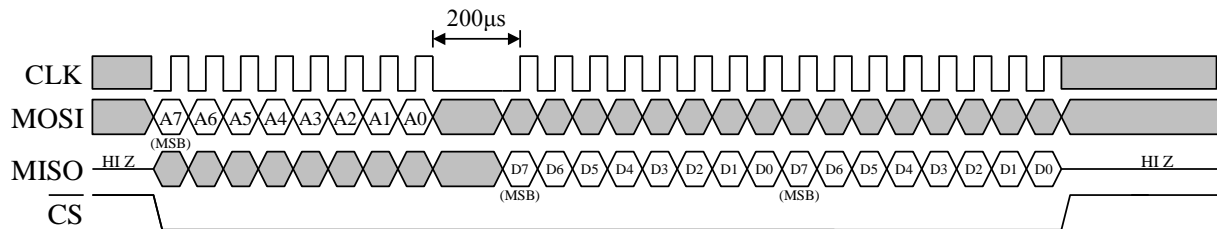

Figure 5 Timing Diagram for an A/D conversion and 12-Bit data read operation.
The KXSS5 has an onboard 12-bit ADC that can sample, convert and read back sensor data at any time. Transmission of an 8-bit axis-conversion command (see Table 10) begins on the falling edge of nCS. The MSB of this command indicates if you are writing to (0) or reading from (1) the register. After the eight clock cycles used to send the command, the host must hold SCLK low for at least 200µs during the A/D conversion time. Note that all returned data is sent MSB first. Once the data is received, nCS must be returned high for at least 130 ns before the next data request. Figure 5 on the following page shows the timing and diagram for the accelerometer 12-bit ADC read operation.